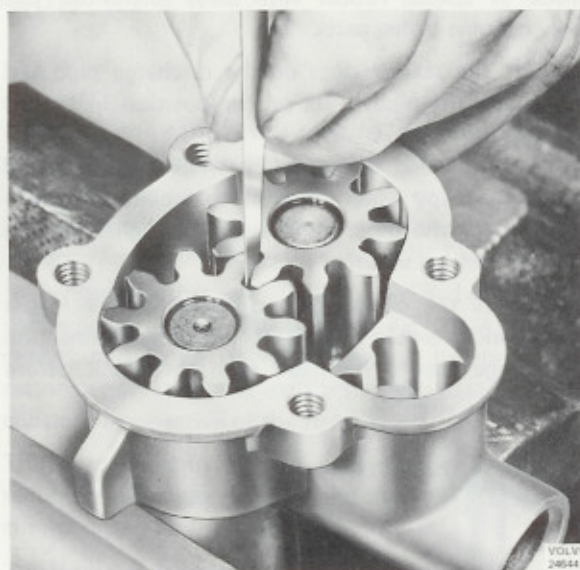

Fig. 22-6. Measuring the backlash
6. Check to see whether the gear flanks, tops or ends are worn. Replace damaged or worn gears. Check that the backlash is 0.15–0.25 mm (0.006–0.010"), Fig. 22-6.